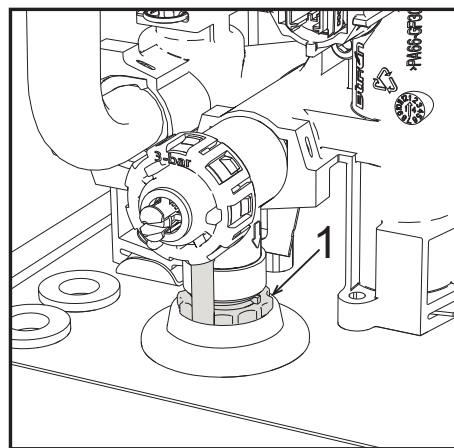

fig. 10- Safety valve with drain faucet
To drain the system, turn the ring (ref. 1 - fig. 10) counter-clockwise to open the faucet. Do not use any tools; use hands only.